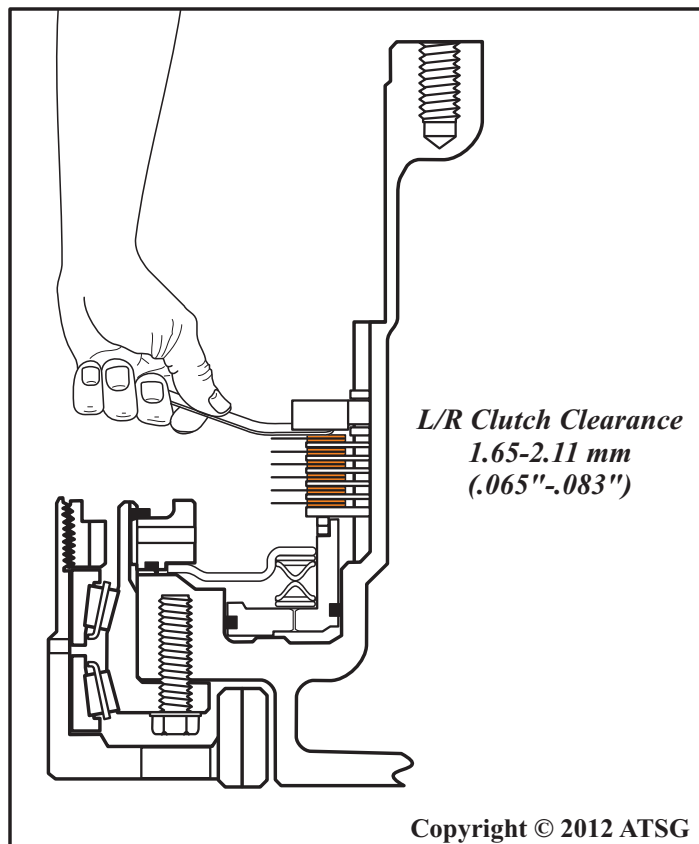

Figure 248
22. Check the low/reverse clutch clearance using a feeler gage **carefully**, between the top friction and pressure plate, as shown in Figure 248.